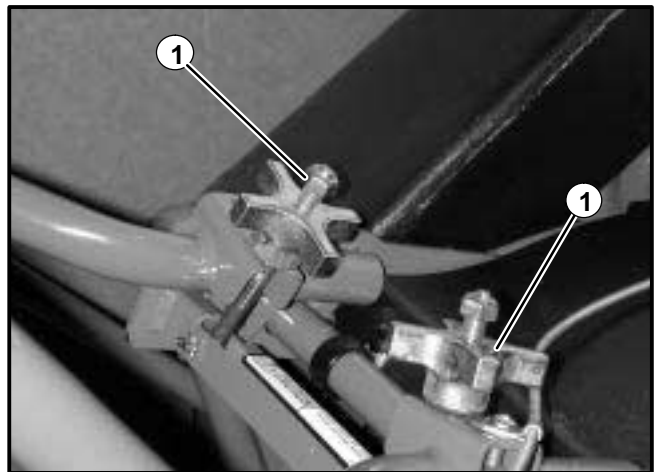

Figure 4
1. Flip the handle locking knobs up into position over the handle bracket and tighten. **HAND TIGHTEN ONLY!** See Figure 4.